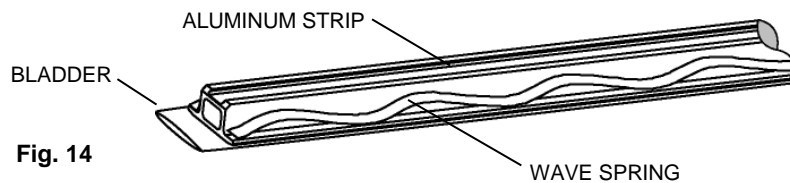

Fig. 14
15. Install the wave springs on top of each side of the aluminum external element (Fig. 14).
Ruptured bladder	Remove external element and inspect bladder for cracks. Aluminum external element only – ensure that wave springs are correctly installed (Fig. 14, page 13). They should sit on top of the aluminum strip.